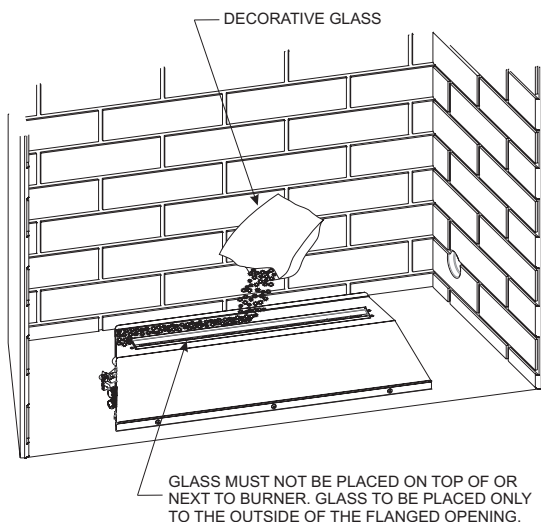
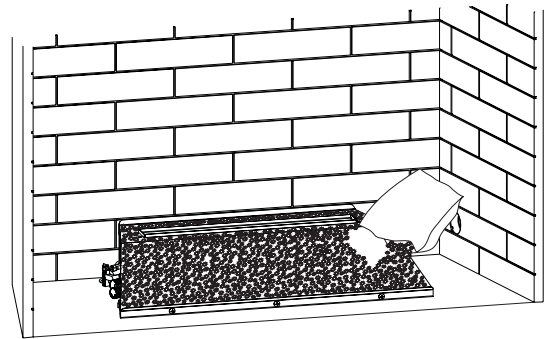

Figure 29
Figure 30
3. To install the Decorative Glass, cut off a corner of the plastic bag and proceed to apply the glass to the rear shelf on the Loft burner (area behind the burner). Apply only enough glass to the Top Cover to cover the black metal surfaces. Do not allow the glass to fall around the burner tube. See Figure 29. Apply the remaining decorative glass to the front sloped surface of the Top Cover. Start by placing the glass along the front edge of the top cover, then gradually place the glass up the sloped top until completely covered. Do not allow the glass to fall around the burner tube. See Figure 30.